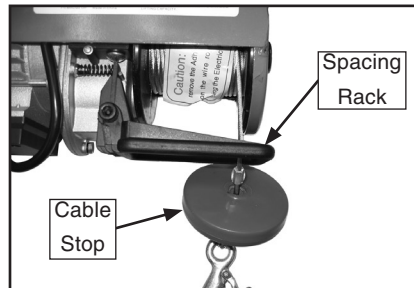

Figure 7. Safety stop mechanism.
- If the motor shuts **OFF** when the cable stop compresses the spacing rack (**Figure 7**), the safety stop microswitch feature is working correctly and the test run is complete.
- If the motor does not shut **OFF** when the cable stop compresses the spacing rack, immediately release the UP/DOWN switch. This safety feature must work properly before proceeding with regular operations. Call Tech Support at (570) 546-9663 for assistance.